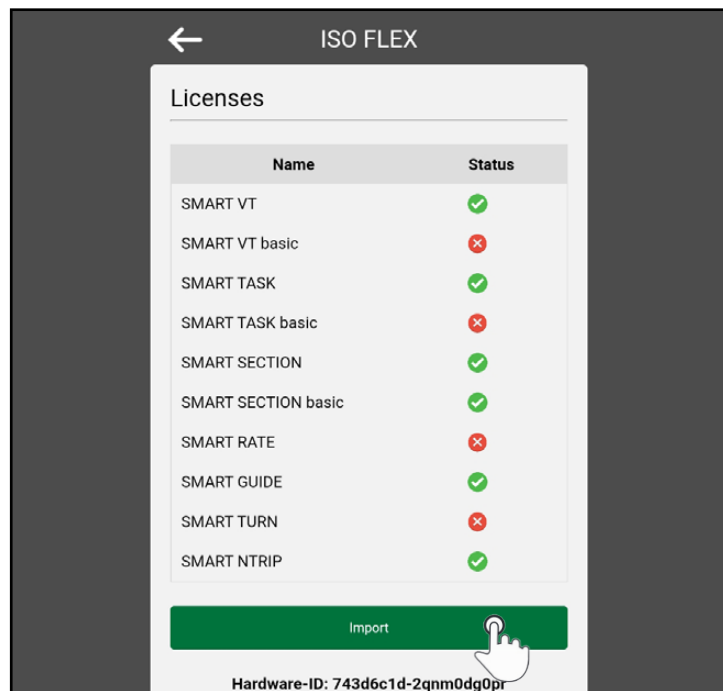

Fig. 162: Licenses menu
8. The status of all of the available SMART COMMAND licenses is displayed in the "Licenses" sub-menu (see Fig. 162).
Tap the import button in the Licenses menu of ISO FLEX (see Fig. 162).